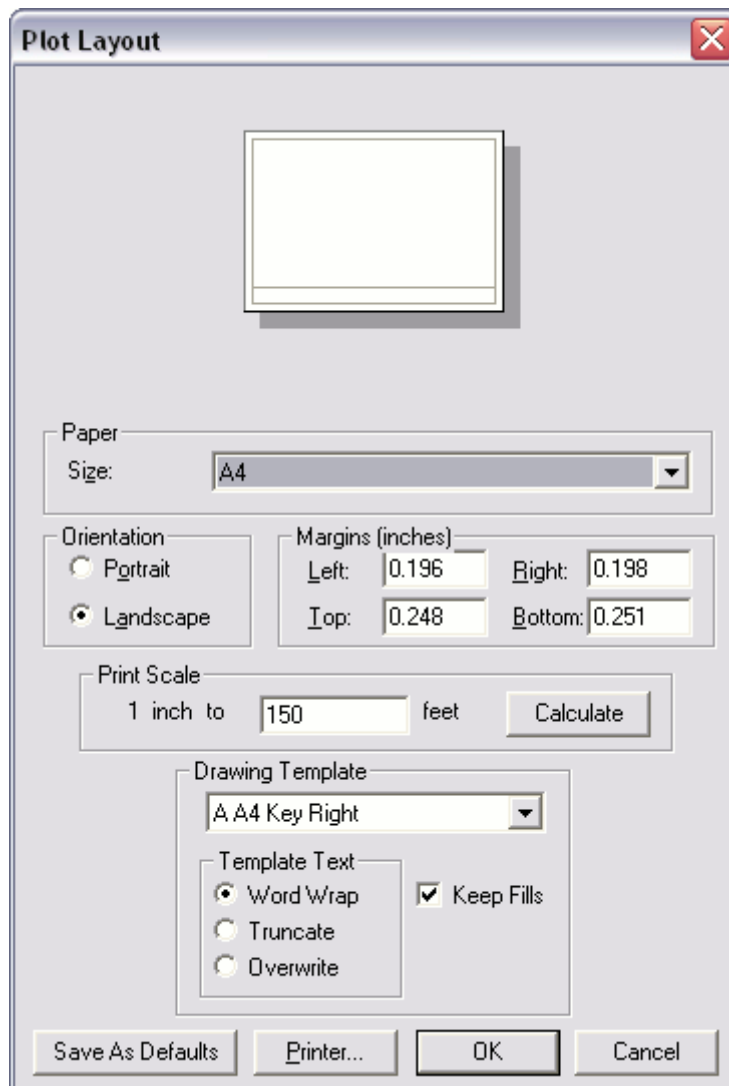

Figure 4-88
7. Select a “Drawing Template” from the dropdown list. Selected the B A3 Key Bottom for the B (A3) paper size. For A (A4) size paper select the A A4 Key Bottom and for C (A2) size paper select the C A2 Key Bottom. In general, you should always select a template to match the selected paper size. Your dialog should look like Figure 4-88.